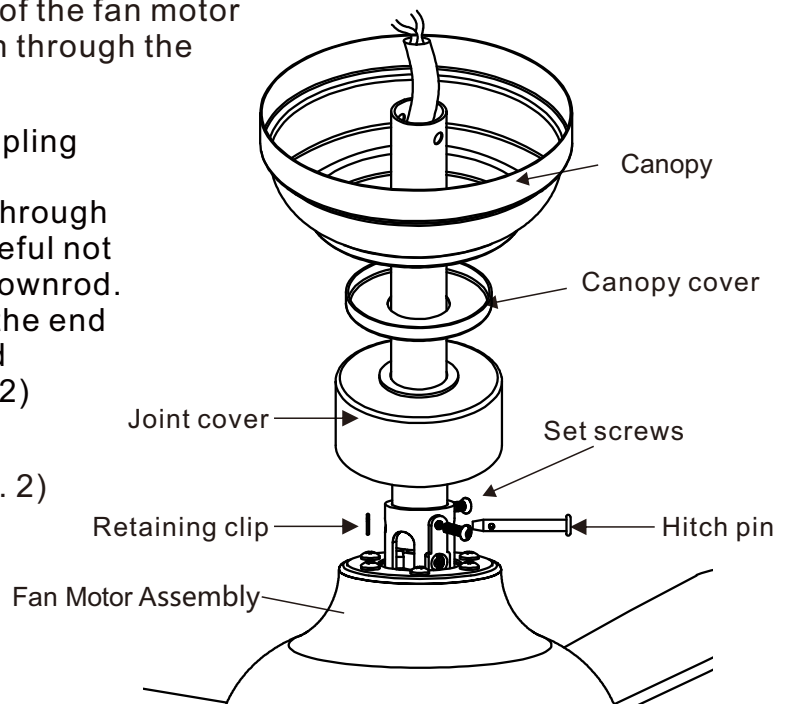

Figure 2
Step 2. Route the wires exiting from the top of the fan motor through the coupling cover and canopy, then through the ball/downrod. (Fig. 2)
Step 3. Thread downrod into the motor coupling until the holes on the downrod and coupling are lined up. Carefully insert the hanger pin through the holes in the collar and downrod. Be careful not to jam the pin against the wiring inside the downrod. Insert the locking pin through the hole near the end of the hanger pin until it snaps into its locked position, as shown in the circle inset of (Fig.2)
Step 4. Tighten two set screws against the downrod on the coupling firmly. (Fig. 2)